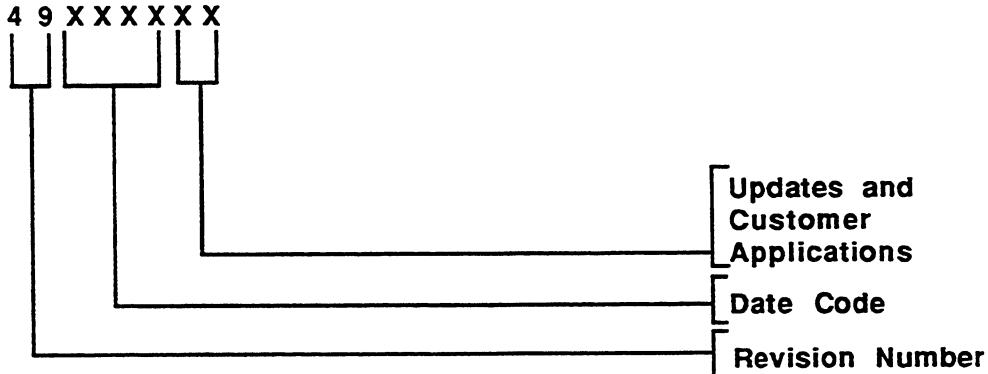

FIGURE 3-1. MAIN CPU PROGRAM I.D.
- Press RECALL; display will increment to Mode 90-08; press PRNT/ENTR. Data is the Main CPU Program I.D. See Figure 3-1 for an example.